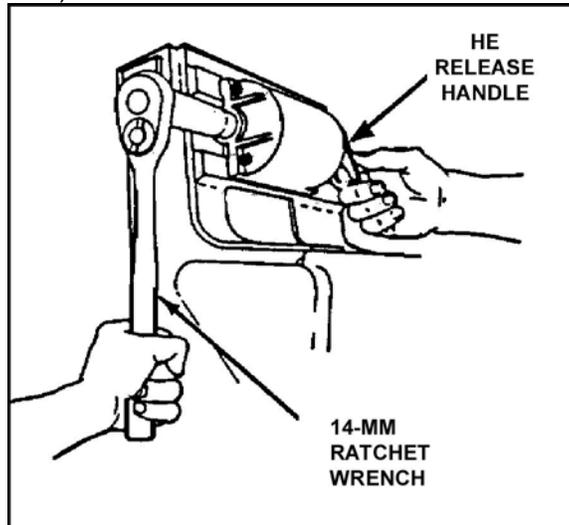

Figure 8. HE release handle.
- (2) Turn the 14-mm ratchet wrench to move the ammunition up the chute slightly. Put upward pressure on the wrench and pull the HE release handle to the right.
- (3) Hold the HE release handle to the right while moving the wrench to the straight down position (Figure 8).